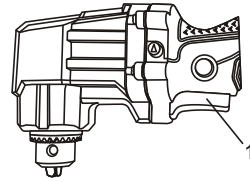

Fig. 2
1. To start the drill, gently squeeze the trigger switch (1) (Fig. 2).